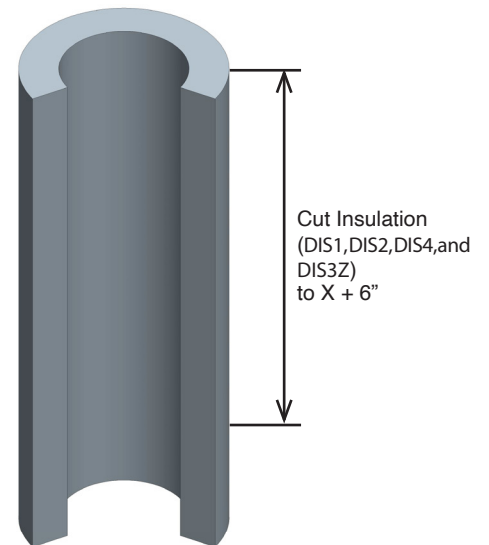

Figure 24c - Step 4 - Cut of the Insulation
4. Then cut the insulation band at dimension X + 6" (DIS1, DIS2, DIS4, DIS3Z). See Figure 24c.